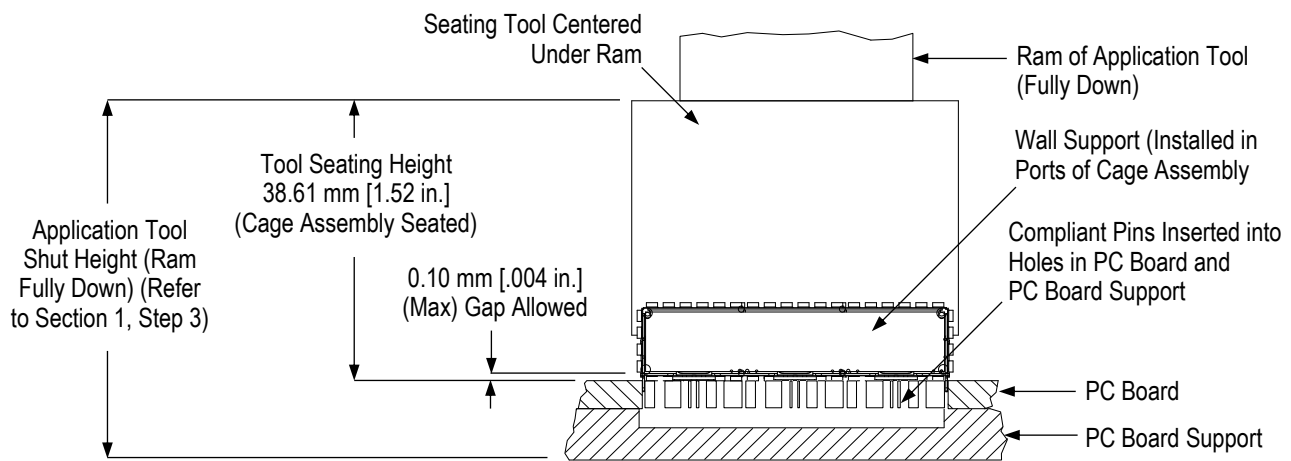

Figure 2
- tool seating height must be set to the dimension given in Figure 2 (application tool shut height will equal the tool seating height plus the combined thicknesses of the pc board and pc board support).
2. SEATING (See Figure 2)